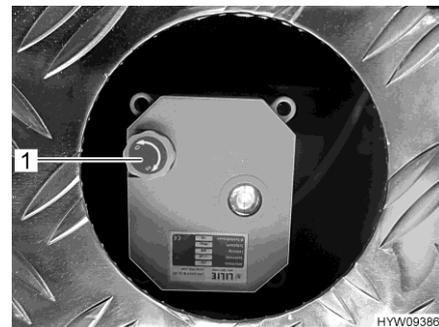

Fig. 206 Handwheel (waste water valve)
- To open the waste water valve, pull handwheel (Fig. 206,1) upwards and turn in an anticlockwise direction as far as it will go. The direction of rotation (O for opening, S for closing) is marked on the handwheel.
- To close the waste water valve, pull handwheel (Fig. 206,1) upwards and turn in a clockwise direction as far as it will go.